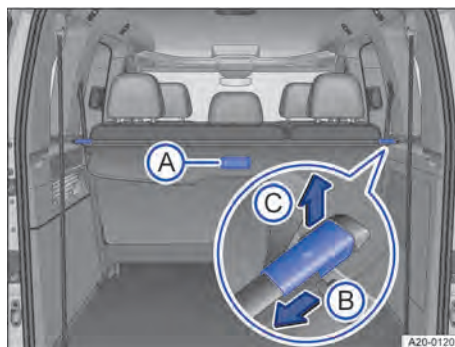

Fig. 150 In the luggage compartment: luggage compartment cover.
1. Use the handle → Fig. 150 (A) to pull the luggage compartment cover back slightly.
1. Use the handle → Fig. 150 (A) to pull the rolled-up luggage cover evenly to the rear.
1. Release the luggage compartment cover in the direction of the arrow → Fig. 150 (B) and lift it up in the direction of the arrow → Fig. 150 (C).
2. Pull and hold the catch of the luggage compartment cover in the direction of the arrow → Fig. 150 (B).